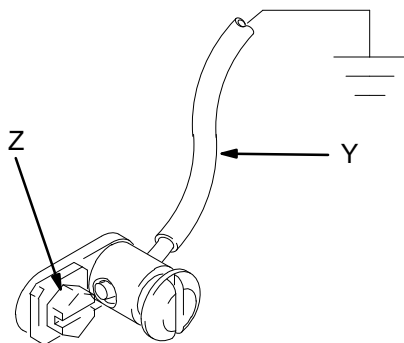

Fig. 1
1. *King Pumps*: use a ground wire and clamp. See Fig. 1. Remove the ground screw (Z) and insert through eye of ring terminal at the end of ground wire (Y). Fasten ground screw back onto pump and tighten securely. Connect the other end of the wire to a true earth ground. Order Part No. 222011 Ground Wire and Clamp.